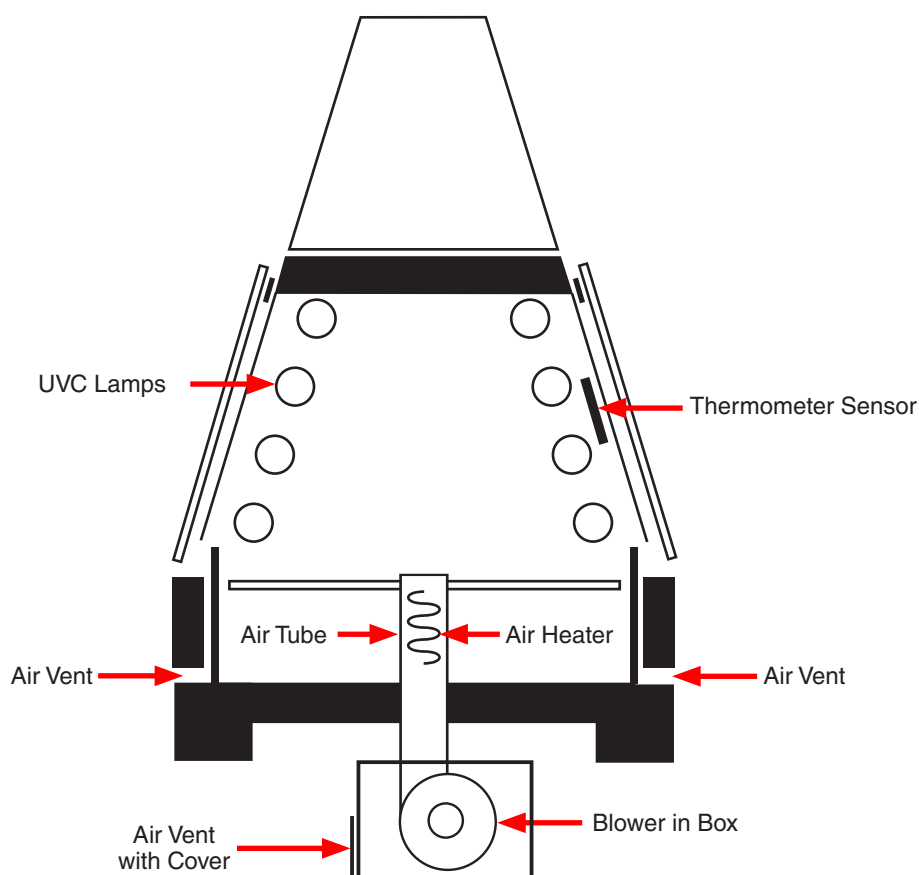

Figure 10.4b: QUV/uvc temperature control components schematic.
- **Blower:** A blower is located in a blower box on the underside of the unit (Figure 10.4b). The blower operates throughout the UV and Dark functions to circulate air into the test chamber.